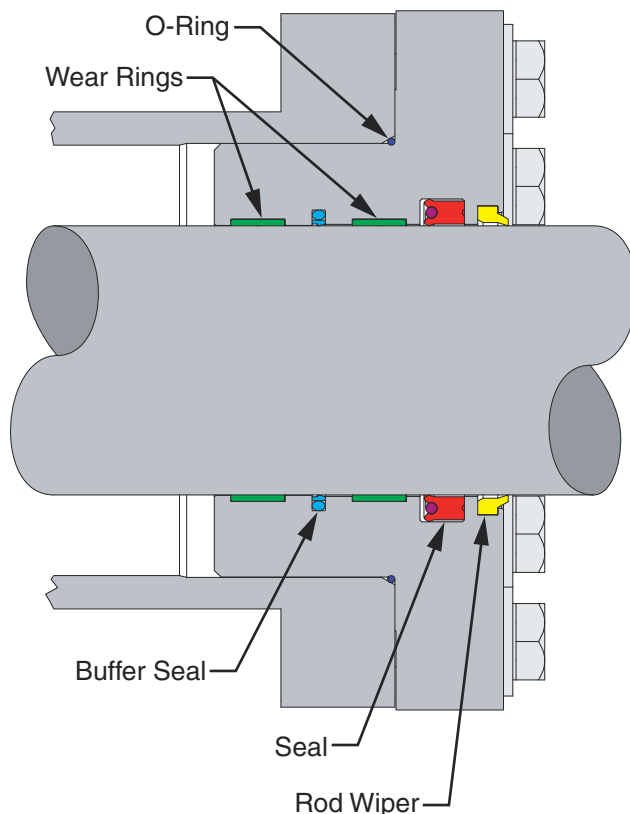

Figure 2 Packing Gland Seals
3. Refer to Figure 2 and Figure 3 for typical seal orientations. Note that the seals on your cylinder may vary. Refer to the illustration in your parts manual for details.